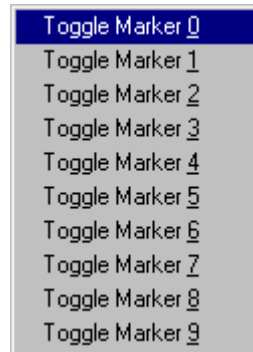

Figure 3-4. Marker Sub-menu
2. Click on the **Go To Marker 0-9** option to open the **Marker** sub-menu (see **Figure 3-4**), and choose the marker number to move to.